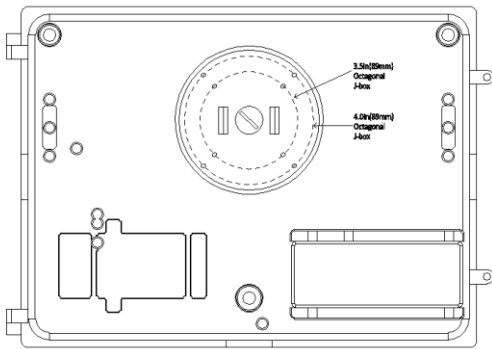

Figure 2
Step2:The Mounting diagram to the wall or outlet in this instructions may be used as a drill template see Figure 2.